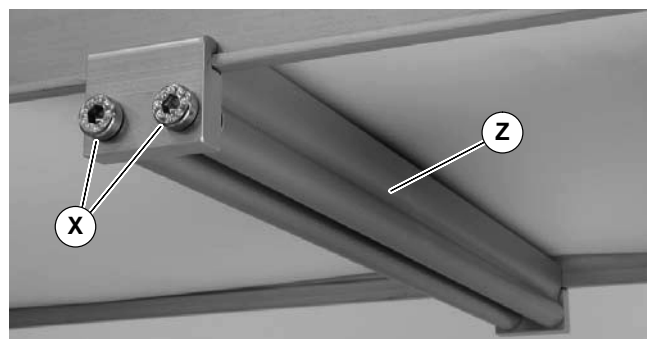

Figure 12
2. Remove screws (X) and clips (Y) from roller assembly.
3. Install roller assembly (Z of Figure 12) as shown. On each side of conveyor, tighten screws (X) to 60 in-lb (7 Nm).